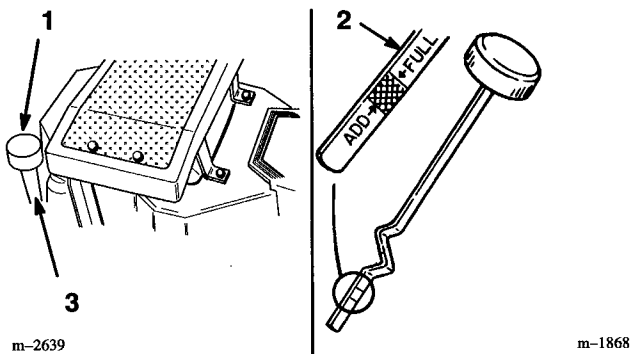

Figure 17
2. Clean around the oil dipstick (Fig. 17) so dirt cannot fall into the filler hole and damage the engine.
3. Unscrew the oil dipstick and wipe the metal end clean (Fig. 17).
4. Slide the oil dipstick fully into the filler tube, do not thread onto tube (Fig. 17). Pull the dipstick out and look at the metal end. If oil level is low, slowly pour only enough oil into the filler tube to raise the level to the "FULL" mark.
5. Slowly pour approximately 80% of the specified amount of oil specified, page 23, into the filler tube (Fig. 17). Now check the oil level; refer to Checking Oil Level, page 24. Slowly add additional oil to bring to "FULL" mark on dipstick.